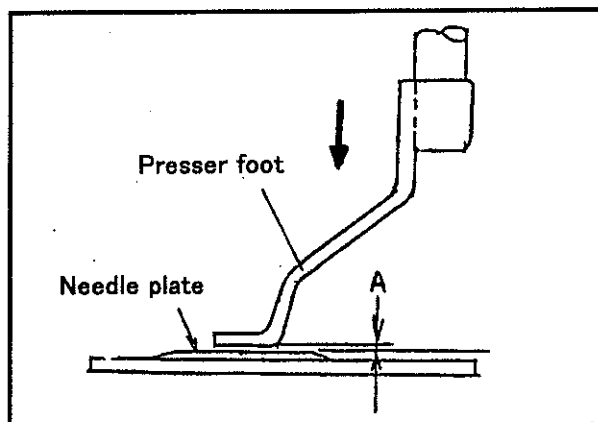

FIG.1
- (1) If the presser foot height is not with the standard range, rotate the hand wheel forward to bring the presser foot to the bottom dead center (Fig.1).